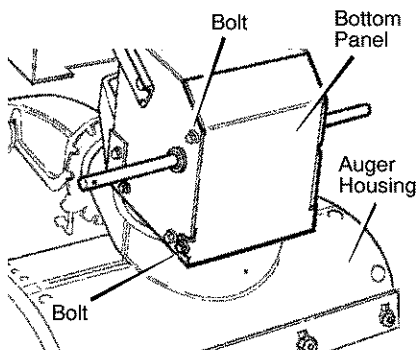

Figure 25
2. Loosen the **bolts** on each side of the **bottom panel** (see Figure 25).
13. Install the **bottom panel** (see Figure 25).